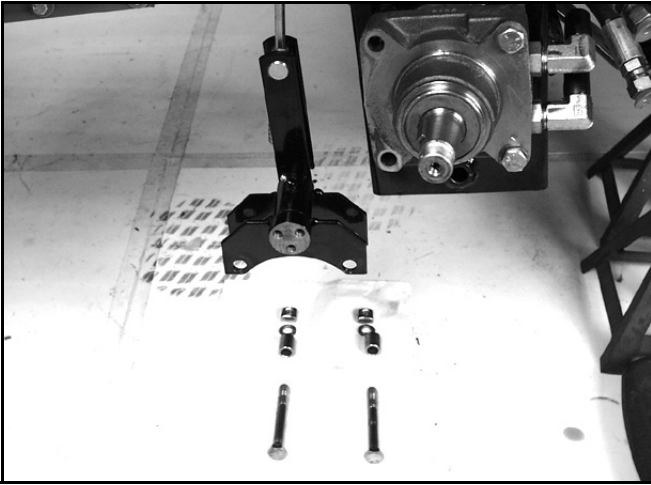

Figure 70
8. Remove the front two wheel motor mounting bolts and swing the brake linkage out of the way (Figure 70).
9. Remove the rear two wheel motor mounting bolts and then remove the wheel motor from the chassis (Figure 70).